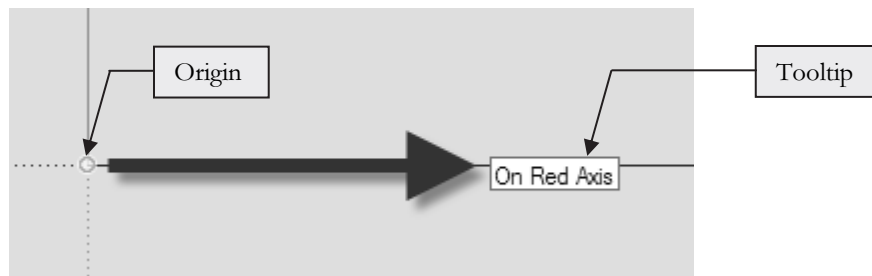

FIGURE 4-2.4 Sketching a line
13. Begin moving your cursor to the right (Figure 4-2.4):